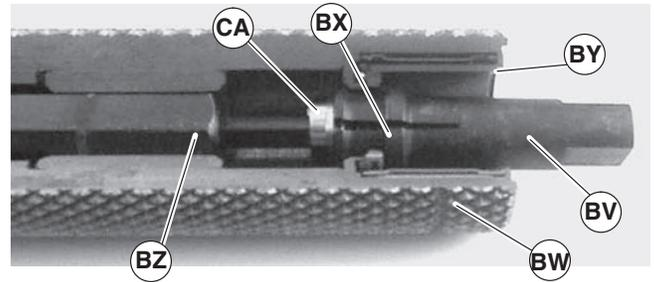

Figure 58
1. Insert bearing removal tool (Figure 58, item BV)(25-05, part of tool kit 4500) into the pulley (BW) until shoulder (BX) seats against bottom of bearing (BY).